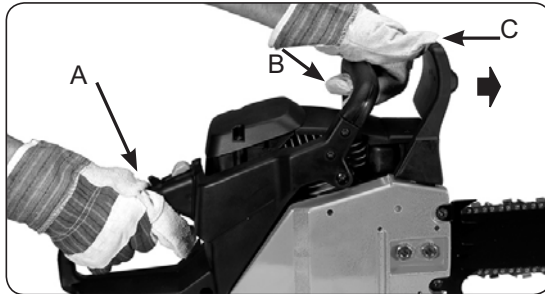

Fig. 8
- Grasp the rear handle (A) with your right hand (Fig 8).
4. With your left hand, hold the front handle (B) [not chain brake lever (C), firmly.
5. Squeeze the throttle trigger to 1/3 throttle, then immediately activate the chain brake lever (C).